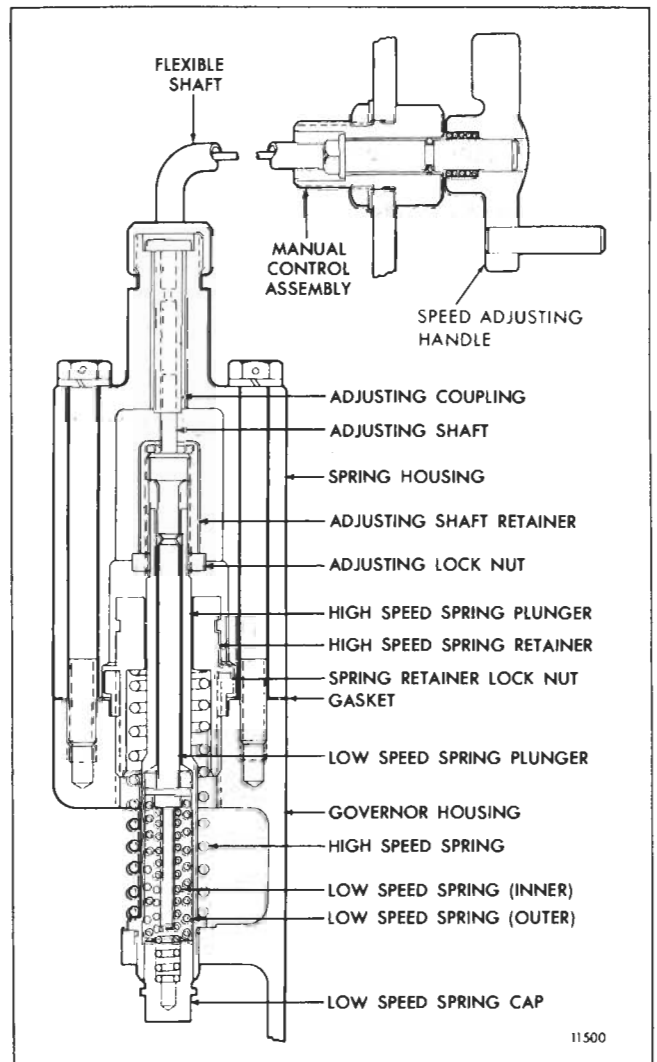

Fig. 1 - Governor Spring Housing and Components
During highway operation, the governor functions as a limiting speed governor, controlling the engine idling speed and limiting the maximum operating speed. At the unloading area, the throttle is left in the idle speed position and the speed adjusting handle (Fig. 1) is turned to obtain the speed required to operate the auxiliary equipment. The governor then functions as a variable speed governor, maintaining a constant speed even when the load is constantly changing, during the unloading operation.
- a. Back out the variable low-speed adjusting shaft until the shoulder on the shaft contacts the shaft retainer (Fig. 1).